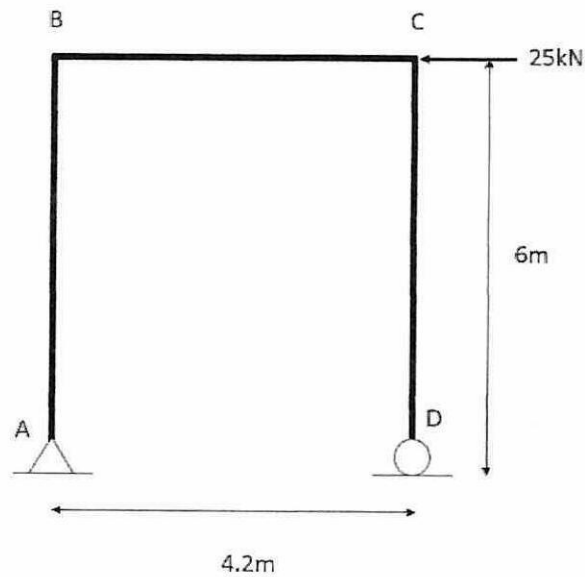

Figure Q2: Structure Frame
- Q2** A structure frame as shown in **Figure Q2** in **Appendix I** is loaded with a concentrated load of 25 kN at points C to D. The frame is pin support at point A and a roller support at point D.